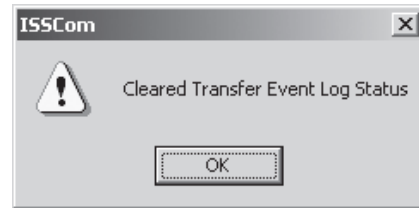

Figure 3-28 Transfer Event Log Status Cleared Confirmation Screen
- Select **YES**, ISScom will respond with the Clear Transfer Event Log Status Cleared confirmation Screen (Figure 3-28).